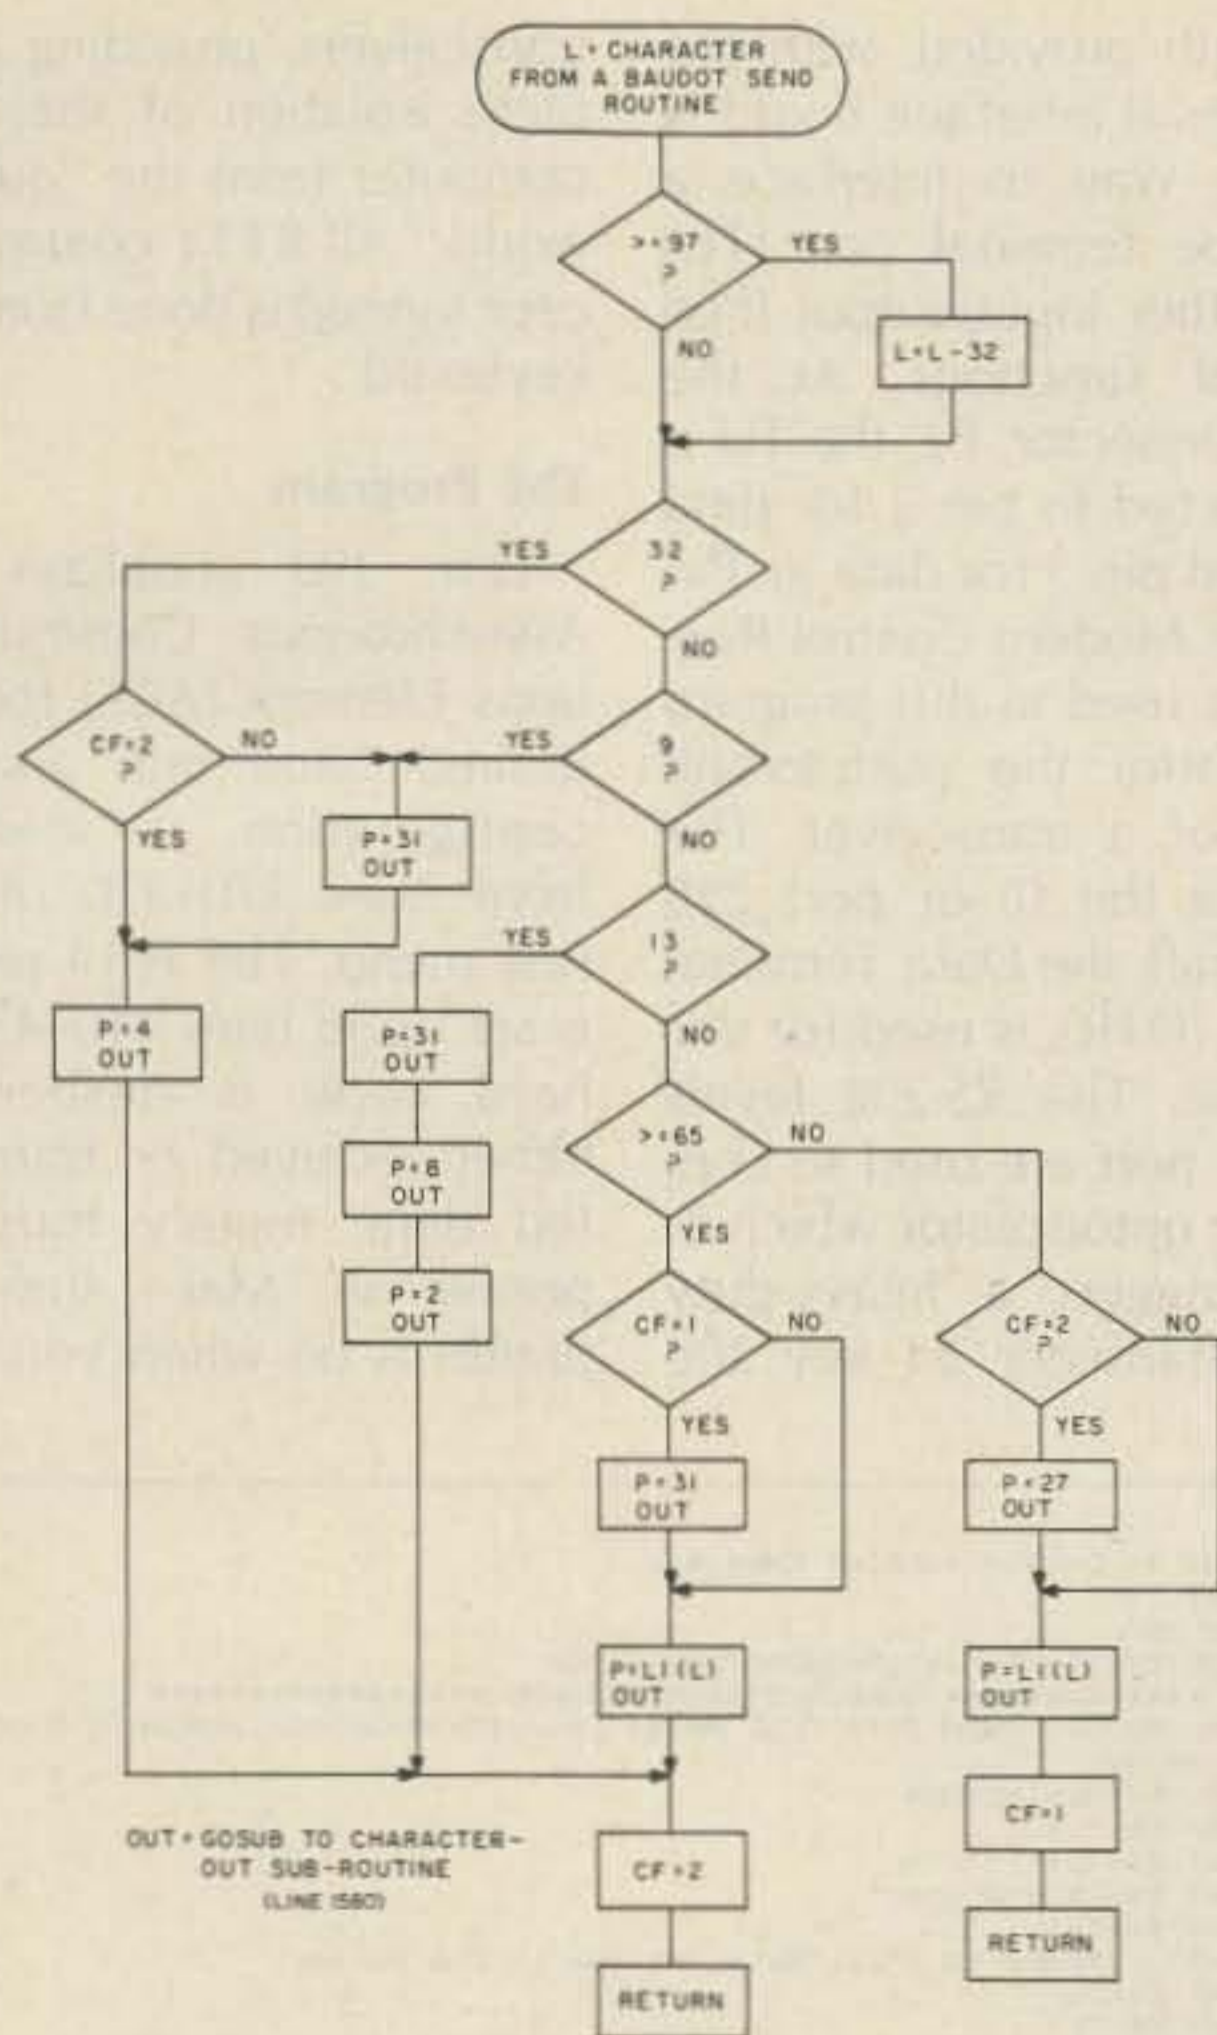

Fig. 1. Baudot send routine.
Operation of this subroutine is best described with the aid of the flowchart, Fig. 1. The character flag, CF, has been set to 2 (LTRs) at the start of the program. ASCII characters from other routines enter as ASCII code integers, variable "L". The first line tests to see if they are lowercase ASCII (more than 97, beyond the range of conversion array L1, 0 to 97). If so, 32 is subtracted, making them uppercase ASCII. Next the character is tested to see if it is a "space." If so, a further test is performed to see if the previous character was a FIG or a LTR (Baudot). If both conditions are met, it sends out a Baudot space (4), sets the flag to 2, and returns. If the previous character was a FIG character, then a LTR (downshift) is sent before the Baudot space.